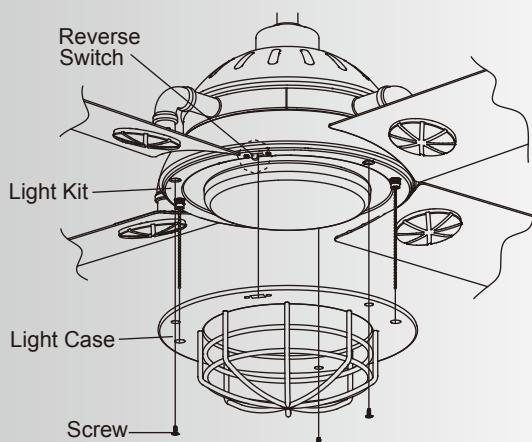

Fig. 22
**Step 2.** Let the reverse switch and 2 pull chains through the holes on the light case. Attach the light case to the light kit by using the three flat head screws in hardware package. (Fig. 22)